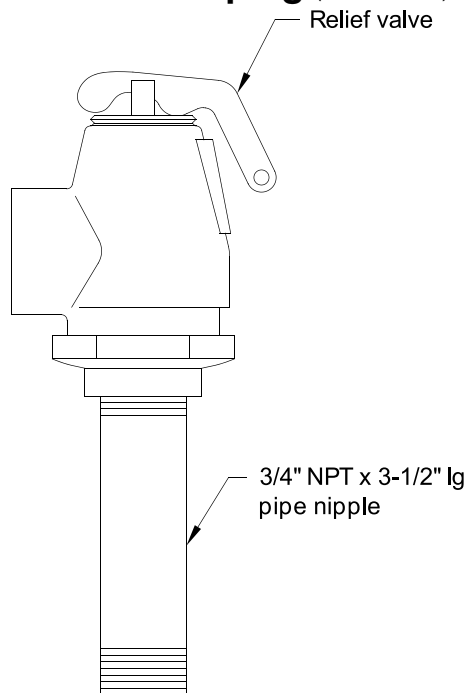

Figure 3-2: Safety Relief Valve Installation
- C. Install Safety Relief Valve. See Figure 3-2. Components are located in Water Trim Carton. Safety Relief Valve must be installed with spindle in vertical position.